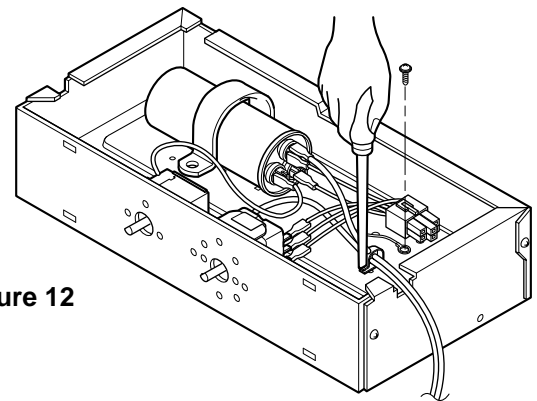

Figure 12
4. Remove a screw which fastens the cord clip. (See Figure 12)